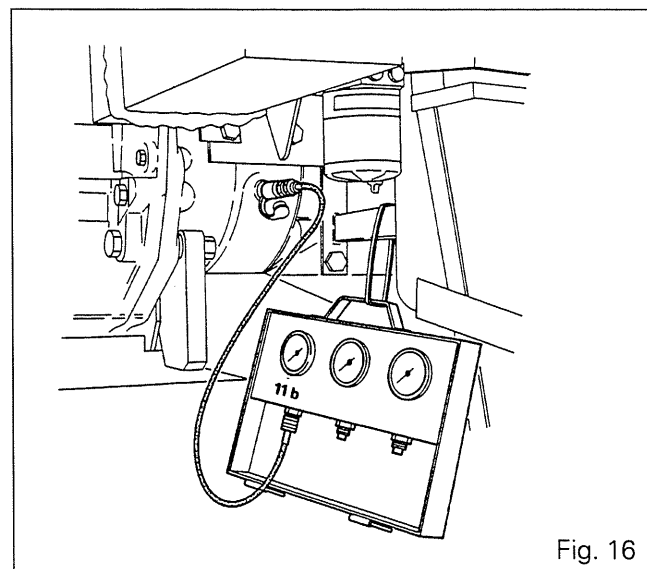

Fig. 16
- Connect a pressure gauge to the diagnostic connector located on the left-hand side of the gearbox (Fig. 16) to check **P25**.